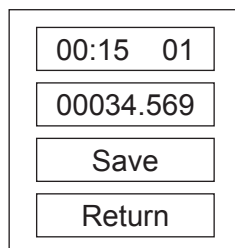

Figure 7. Result screen
- Prepare sample, and insert sample tube into the sample chamber. Touch Measure to start measurement. After a few seconds, the measurement result will be displayed on the Result screen (Fig. 7). If you used calibration, the value displayed will be in the same units as your standard (for example, if the nominal value of your standard was 1, representing 1  $\mu$ M, then the value displayed will represent  $\mu$ M; if the nominal value of your standard was 10, representing 10 ng/tube, the value displayed will represent ng/tube). The timer clock will start from zero so you can do a follow-up measurement after a certain time if desired.